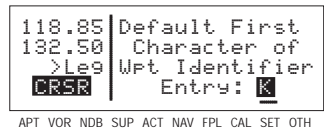

Figure 4-43
- Use the right inner knob to select the desired character (figure 4-43), such as a K in the U.S., a C in Canada, a P in Alaska, an E or an L in Europe, etc.